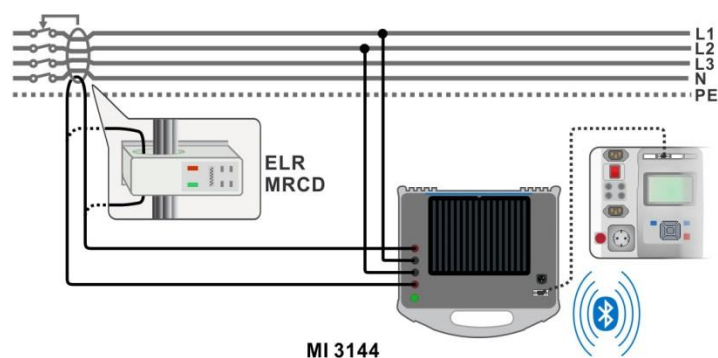

Figure 6.96: ELR Current Injection Test / Combination Time Test connection
- › Connect test leads to the object under test. See **Figure 6.96**. Refer to **MI 3144 Euro Z 800 V Instruction manual** for detailed information.
See **Figure 6.96: ELR Current Injection Test / Combination Time Test connection**.
- Connect test leads to the object under test. See **Figure 6.96**. Refer to **MI 3144 Euro Z 800 V Instruction manual** for detailed information.